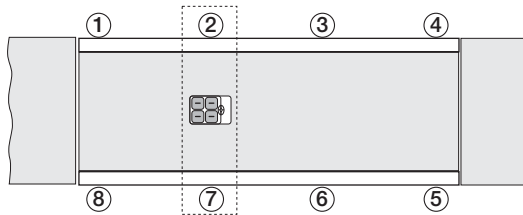

Figure 5-7. Trimming Paired Sections 2:7, 3:6 and 4:5.
2. Move the weight cart directly over the next paired cell section (2, 7 in Figure 5-7) and record the indicator reading.